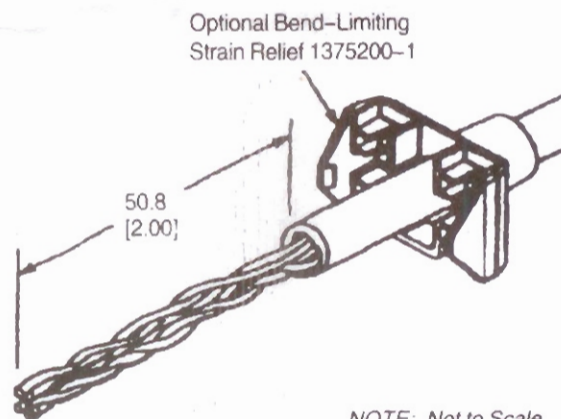

Figure 2
1. Strip back only as much cable jacket as necessary to perform termination. See Figure 2.
If using the optional bend-limiting strain relief, slide it over cable jacket as shown in Figure 2.